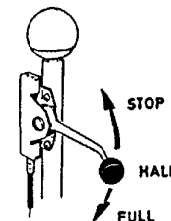

Fig. 3
2. Governor handle (18) in full speed position, pointing down (fig. 3).